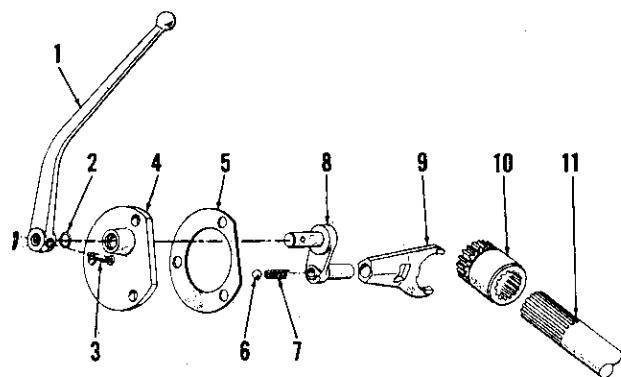
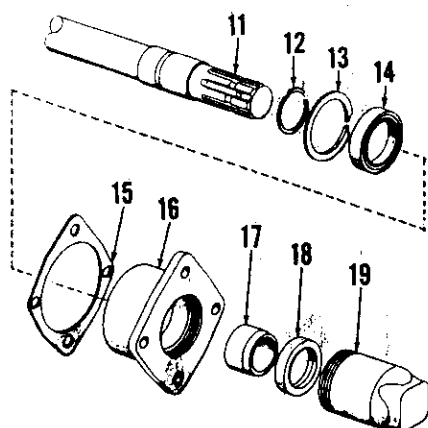
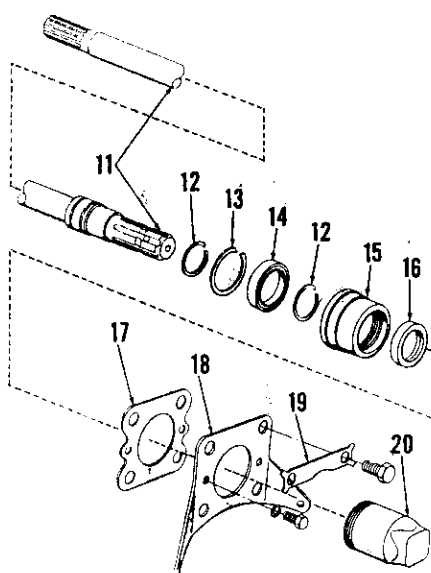

Fig. 352—Exploded view of PTO shift unit used with 6 or 8-speed transmissions with "live" or transmission type PTO options.
Fig. 353—Exploded view of PTO output shaft assembly for model 2000, 3000 and 4110 L.C.G. tractors.
Fig. 354—Exploded view of PTO output shaft assembly for model 4000 (except 4110 L.C.G.) tractors.
320. Power take-off is driven from the PTO countershaft which rotates inside hollow transmission countershaft. On all models with single clutch, power flow to both transmission and power take-off is stopped when transmission clutch is disengaged. On 3000 models with dual clutch, power flow to transmission is stopped when clutch pedal is depressed about half-way and power flow to both transmission and power take-off is stopped when clutch pedal is fully depressed. Refer to Fig. 352 for exploded view of shifter mechanism, to Fig. 354 for exploded view of model 4000 output shaft assembly and to Fig. 353 for exploded view of output shaft assembly for other models.
Then, unbolt retainer (16—Fig. 353) from rear axle center housing and withdraw the shaft, bearing and retainer assembly. Overhaul unit as outlined in paragraph 317 for 4-speed transmission equipped models.
NOTE: If the output shaft has been removed with the PTO shift mechanism in neutral position, or if the PTO shift lever has been moved while PTO output shaft is removed, the shift collar (10—Fig. 352) can fall out of shift fork (9). In either event, remove the shift cover and lever assembly as outlined in paragraph 323 and place collar on PTO countershaft in transmission before reinstalling output shaft.
Reinstall the PTO output shaft, bearing and retainer assembly with new gasket (15—Fig. 353) and tighten retaining cap screws to a torque of 35-47 Ft.-Lbs. Refill rear axle center housing with proper lubricant.
322. To remove PTO output shaft assembly on model 4000 tractor, proceed as follows: Drain lubricant from rear axle center housing and disconnect hydraulic lift lower link sway chains from retainer plate (18—Fig. 354). Be sure that the PTO shift lever is in engaged position, then unbolt and remove retainer plate from rear axle center housing and withdraw the output shaft, bearing and bearing support assembly.
To reassemble, install front snap ring on shaft and drive or press bearing tightly against snap ring and install the rear snap ring. Install new seal in support with sealing lip forward, lubricate seal and install shaft and bearing assembly in support. Install bearing retaining snap ring in front end of support, then install the assembly in rear axle center housing. Note: If output shaft was removed with PTO shift lever in disengaged position or if shift lever was moved while PTO output shaft was removed, remove shift lever and cover assembly as outlined in paragraph 323 and place shift collar (10—Fig. 352) on PTO countershaft in transmission before installing output shaft.
With output shaft assembly installed, reinstall retainer plate with new gasket (17—Fig. 354), tighten the large cap screws to a torque of 170-200 Ft.-Lbs. and the small cap screws to a torque of 35-47 Ft.-Lbs. Refill rear axle center housing and hydraulic system with proper lubricant.
323. **R&R AND OVERHAUL SHIFT MECHANISM.** First, drain rear axle center housing lubricant to below level of shift cover (4—Fig. 352) and remove the left step plate (foot rest). Then, unbolt cover from rear axle center housing and remove the cover, shift lever and shift fork assembly.
On models 2000, 3000 and 4110 L.C.G. with single speed PTO, the removed unit is similar to that used with other transmissions; refer to Fig. 351 or 353 for exploded view of unit and to paragraph 317 for service information. On model 4100 (except 4110 L.C.G.), the single speed PTO output shaft assembly is similar to that used with 8-speed transmission; refer to Fig. 354 for exploded view of unit and to paragraph 322 for service information.